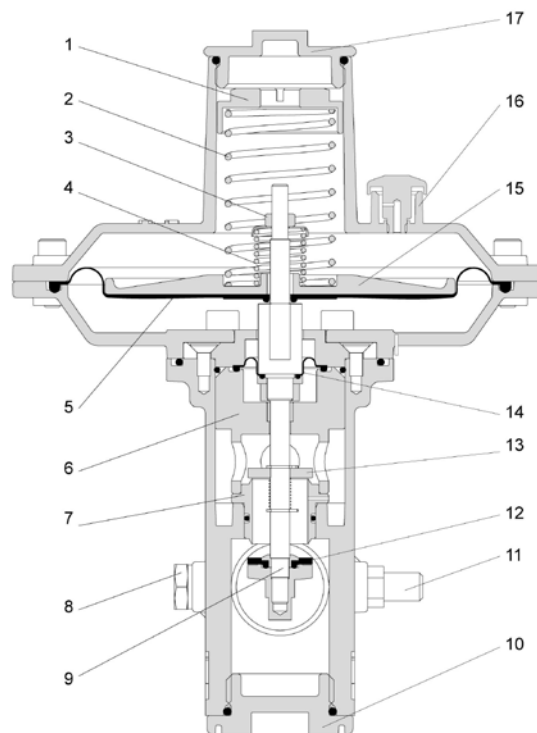

Figure 2 – Main components of RTG 25
A decrease in the inlet pressure or an increase in the gas consumption determines the regulator to open further. At a certain point, the obturator (13) (Figure 2) reaches the upper edge of the seat (7) preventing the gas flow through the regulator.